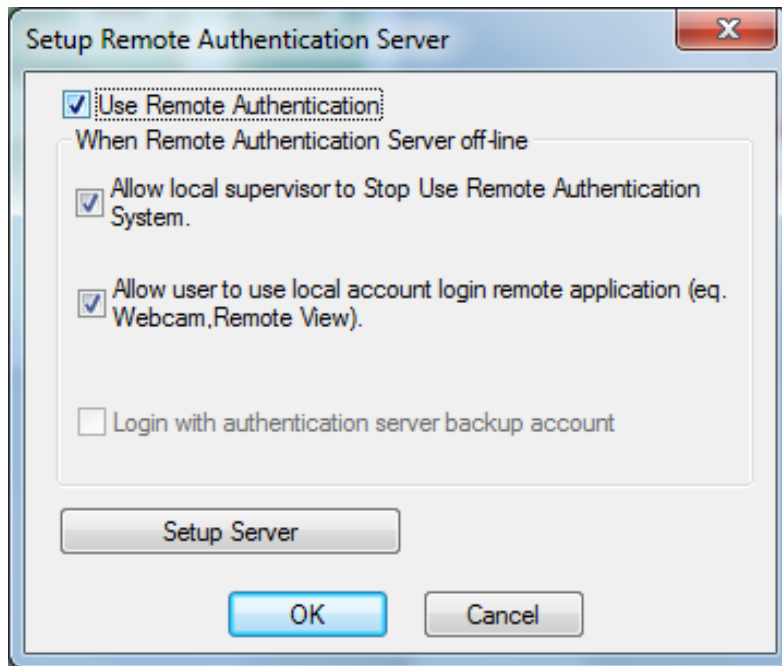

Figure 11-26
- Click the **Set Up Server** button in Figure 11-26. This dialog box appears.